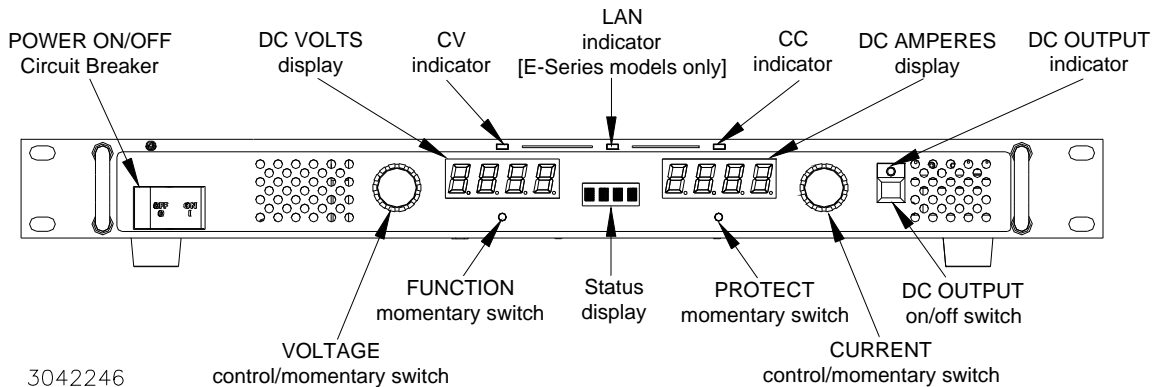

FIGURE 2-1. KLP SERIES, FRONT PANEL CONTROLS AND INDICATORS
2.2.1 FRONT PANEL CONTROLS AND INDICATORS. Refer to Figure 2-1 and Table 2-1.